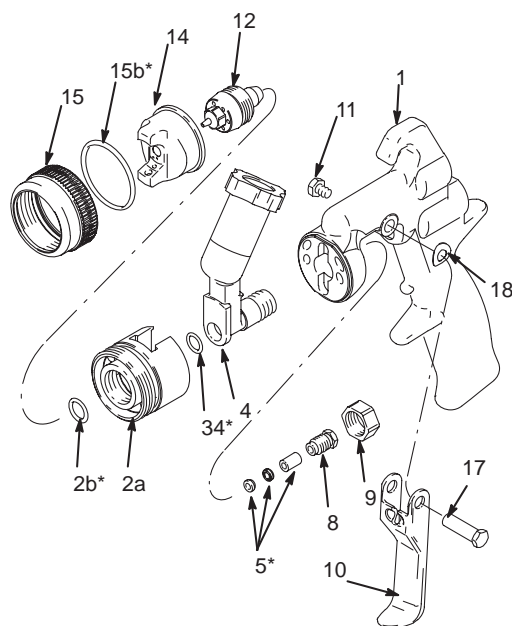
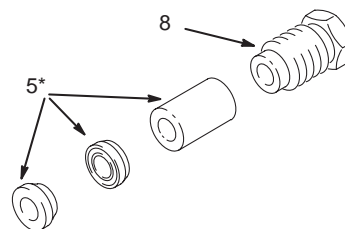

Fig. 23
Fig. 24
1. With the spray housing (2a) removed from the adapter (4), use a mechanical pick to remove the o-ring (2b) from the housing (2a).
2. Remove o-ring (34) from the adapter (4). See Fig. 23. **NOTE:** O-ring (2b) is slightly larger than o-ring (34).
3. Install a new o-ring (34) into the adapter (4). Install a new o-ring (2b) into the housing (2a). **NOTE:** To ease o-ring installation, place the adapter (4) into the spray housing (2a) to plug the end. Install one end of the o-ring into the groove in the housing, then press the rest of the o-ring into place.
4. Unscrew the packing screw (8) from the adapter (4) with the gun tool (28).
5. Using a mechanical pick, push the three fluid packings (5) out of the adapter (4). Be careful not to damage the adapter. Discard the old fluid packings.
6. Place the new fluid packings (5) and packing screw (8) onto the needle (13). See Fig. 24 for the orientation of the parts.